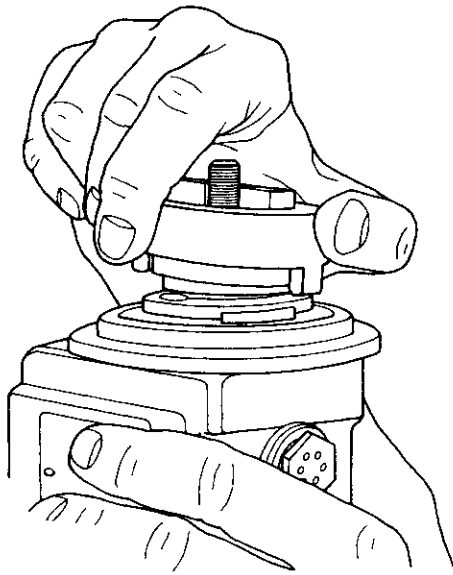

Figure 6.1
- B. Grasp shell of impulse coupling assembly and gently pull the assembly outward to clear the latching ears of the impulse hub assembly. (See Figure 6.1).